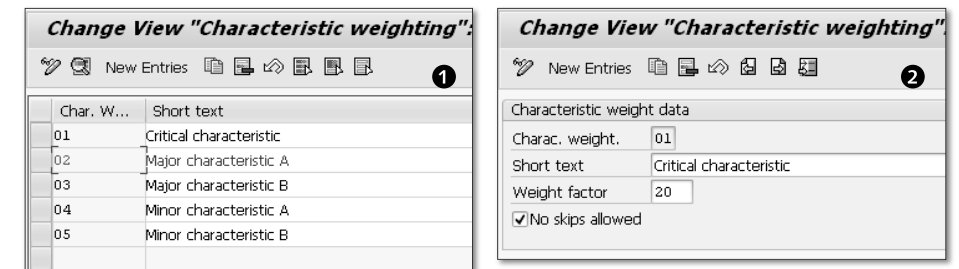

Figure 3.61 Characteristic Weighing
You can create characteristic weighing together with the weight factor by following the menu path SPRO • SAP REFERENCE IMG • QUALITY MANAGEMENT • QUALITY PLANNING • BASIC DATA • INSPECTION CHARACTERISTIC, INSPECTION METHOD • DEFINE CHARACTERISTIC WEIGHING. In Figure 3.61 ①, choose CHAR. WGHT 01, and then ② appears. Checking the NO SKIP ALLOWED checkbox ensures that, on selection of defect CRITICAL CHARACTERISTIC or CHARAC. WEIGHT 01, the system doesn't allow inspection skips in results recording.